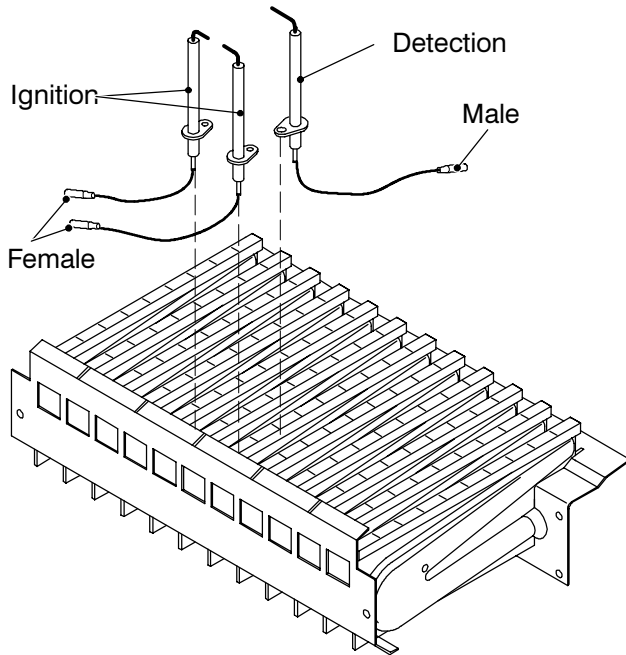

Fig. 80
- 7 Assemble the electrodes carrying out the removal operation in reverse order. Refer to Fig. 80 in order to recognise the electrodes and to correctly connect the wiring.